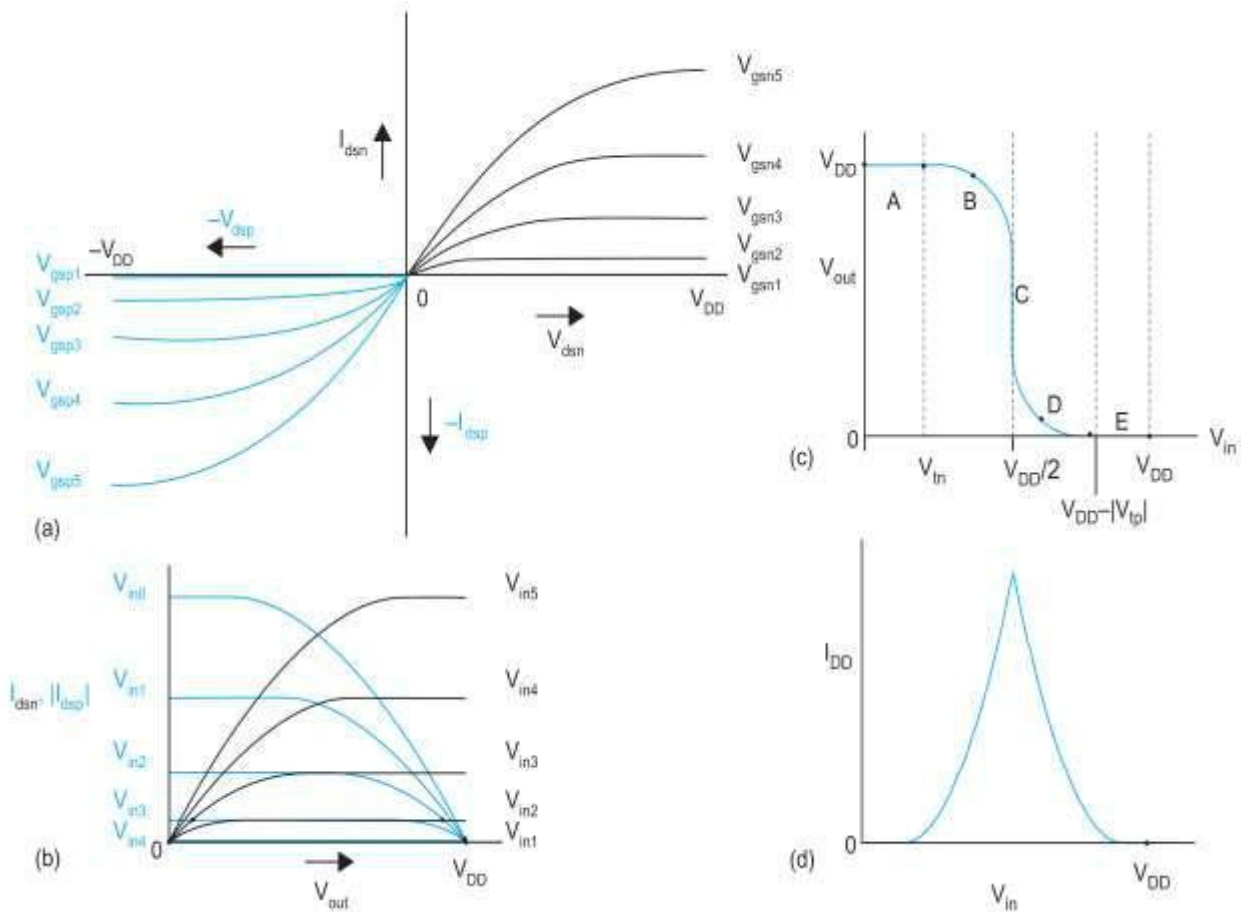

Figure 12: CMOS inverter DC characteristic
✓ Figure 12(a), shows  $I_{dsn}$  and  $I_{dsp}$  in terms of  $V_{dsn}$  and  $V_{dsp}$  for various values of  $V_{gsn}$  and  $V_{gsp}$ .
- ✓ Figure 12(b), shows the same plot of  $I_{dsn}$  and  $|I_{dsp}|$  in terms of  $V_{out}$  for various values of  $V_{in}$ .
- ✓ Operating points are plotted on  $V_{out}$  vs.  $V_{in}$  axes in Figure 12(c) to show the inverter DC transfer characteristics.
- ✓ The operation of the CMOS inverter can be divided into five regions as indicated on figure 12(c).